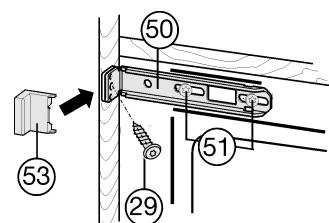

Fig. 16
- ▶ Loosen the screws Fig. 16 (51) a little.
- ▶ Tightly screw the top mounting bracket Fig. 16 (50) to the unit wall using Spax screw Fig. 16 (29) Ø4x19.
- ▶ Break off the projecting end of the cover Fig. 16 (53).
- ▶ Tighten the screws Fig. 16 (51).
- ▶ Put on the cover Fig. 16 (53).